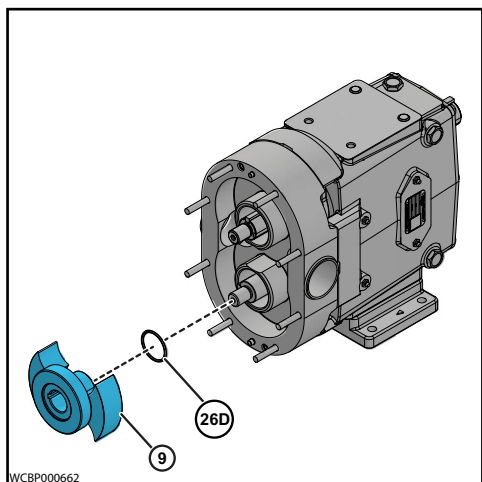

Figure 39 - Remove other Rotor
8. Using only your hands, remove the Rotor (9), as shown in Figure 39.
9. Remove the Rotor O-ring (26D) from the Rotor groove, as shown in Figure 39.
10. Place the Rotors (9) in the up-turned cover to prevent damage to close-tolerance parts.